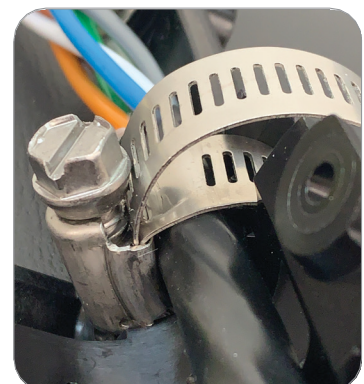

Figure 16
1. Install hose clamp without the spur bracket on any thin-walled micro cable. (Figure 16)